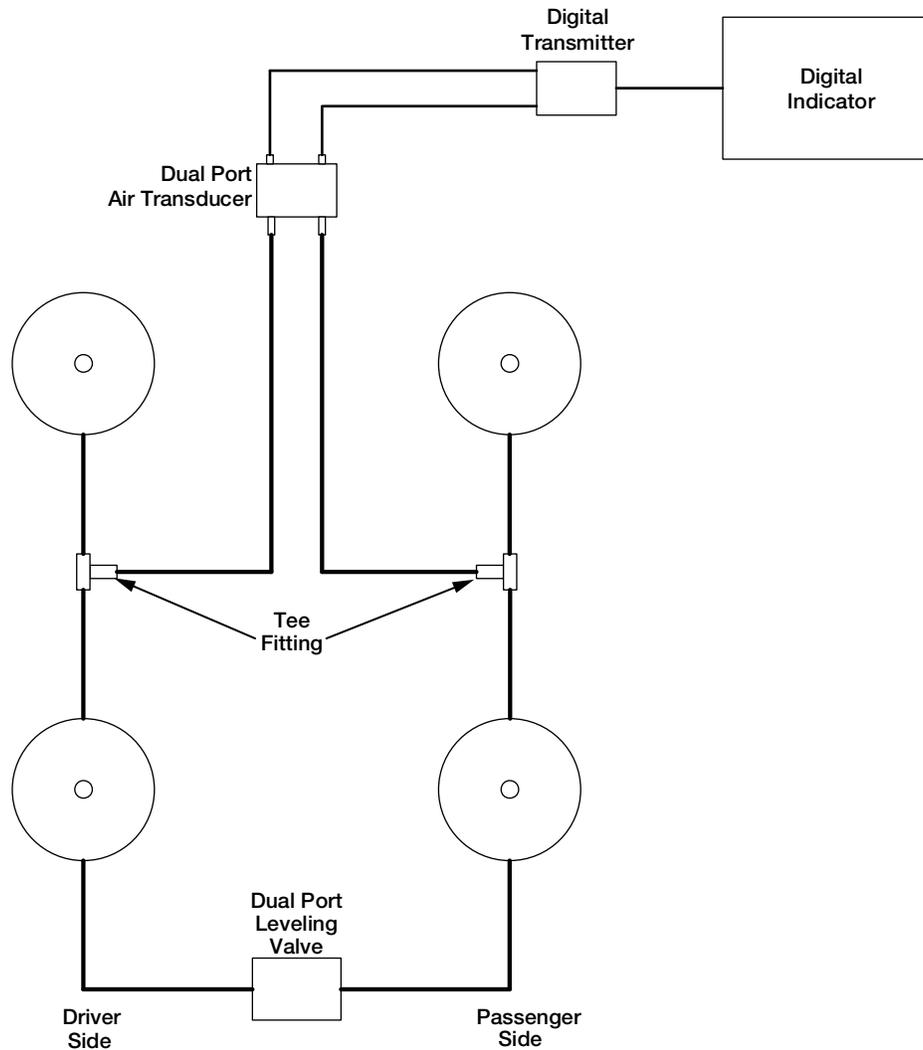

Figure 4-4. Block Diagram
2. The air pressure transducer must be installed to the air lines between the left and right side air bags, for both single and dual-ported leveling valves. See figures 4-4 and 4-5.
Clean and remove any paint from the air line before inserting air line into the tees and fittings. Chipped paint on the air line can result in air leaks at the fitting ends. Use pipe thread seal tape on all fitting ends. Rice Lake Weighing Systems recommends the use of push-on type air fittings and tees. All tees and fittings used must be DOT approved. For dual sensor transducer installations, keep the lengths of the air line used from the sensor to the tee fittings as equal as possible on both sides. See Figure 4-4.